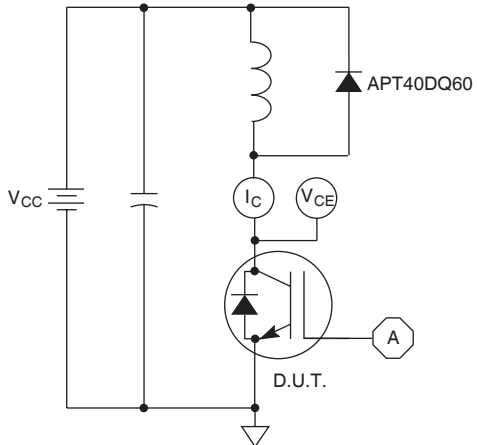

Figure 21, Inductive Switching Test Circuit
- ⑤ E_{on2} is the clamped inductive turn-on energy that includes a commutating diode reverse recovery current in the IGBT turn-on switching loss. (See Figures 21, 22.)
- ⑥ E_{off} is the clamped inductive turn-off energy measured in accordance with JEDEC standard JESD24-1. (See Figures 21, 23.)